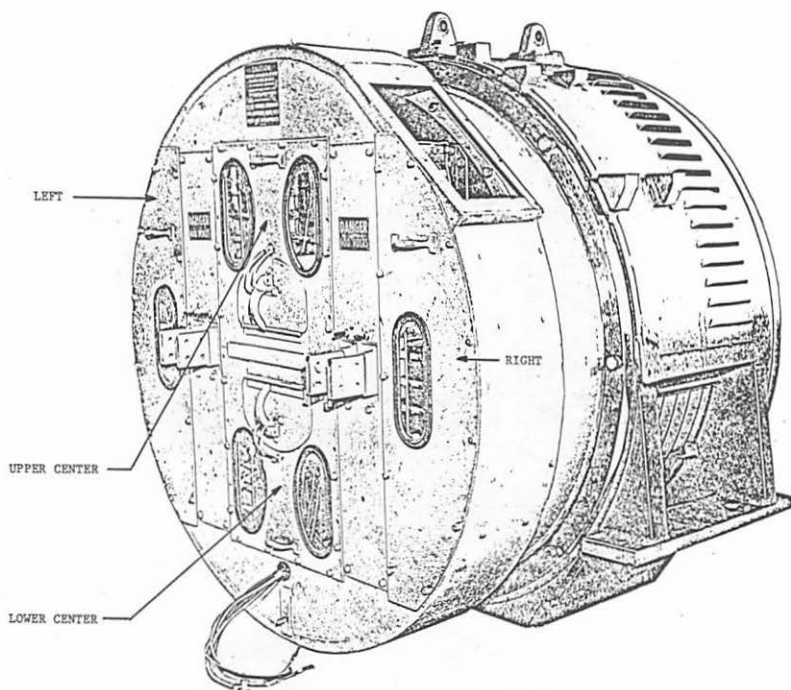

FIGURE 2
**A.** Remove AR10 airbox cover panels as indicated in Figure 2. On units with slip ring snow shields—remove 4 bolts that secure shield to generator end frame and remove shield.